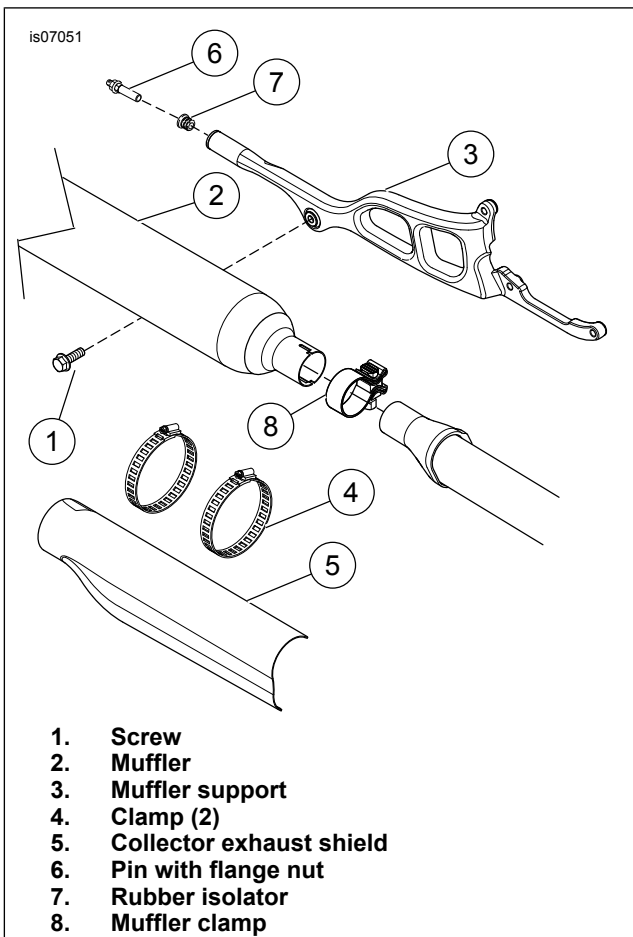

Figure 1. Remove OE Exhaust
2. See Figure 1. Remove two clamps (4). Remove collector heat shield (5).